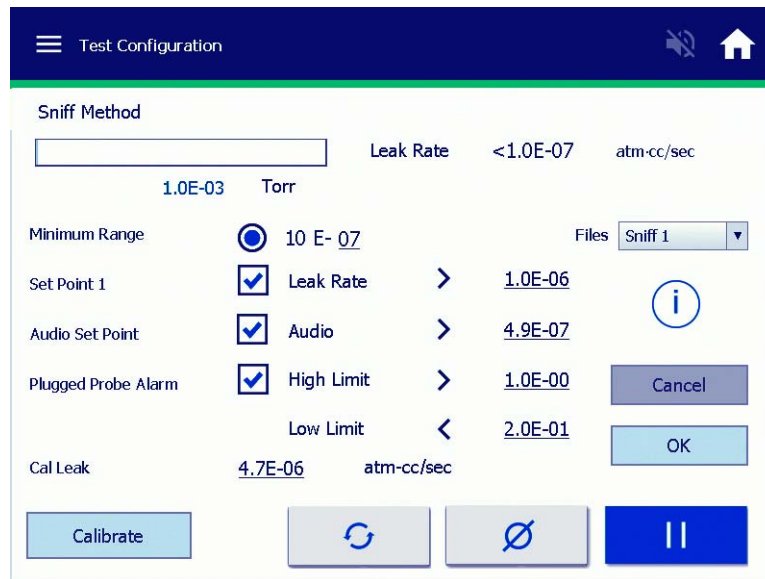

Figure 5-8 Sniff Method
2. Select **Sniff Method** and press **Set-Up** and Figure 5-8 appears.